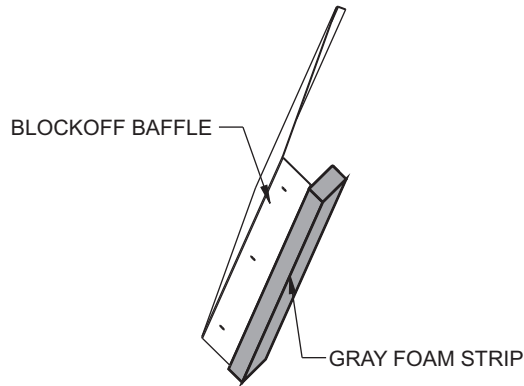

Fig. 20 — Adding Foam Strip to Block-Off Baffle
7. Attach gray foam strip (provided) to block-off baffle on outer face of flange. See Fig. 20.